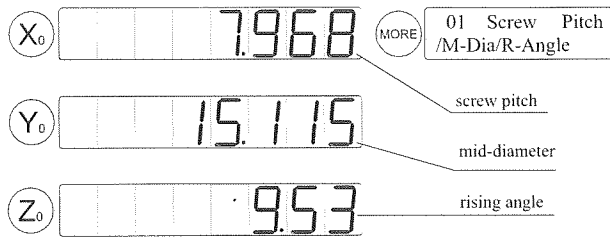

Figure1-31 Information1 of Screw Feature
- 1) The information of screw pitch, mid-diameter, rising angle is displayed as in figure1-31.